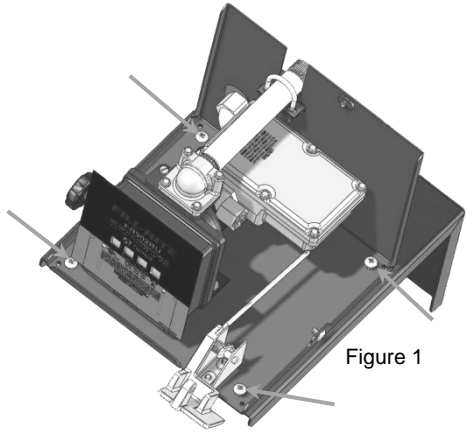

Figure 1
4. Place dispenser on mounting plate; using the 4 - 5/16 x 18 screws, nuts, and grommet washers, screw the dispenser securely to the mounting plate through the 4 holes located in the bottom of the dispenser cabinet base (figure 1).